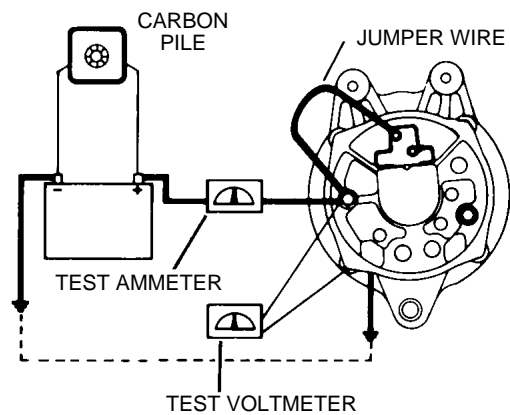

Figure 11-13. Testing Alternator
- a. Wiring connections for bench testing the alternator are shown in Figure 11-13. Refer to the Service Paragraph 11-14 and Table XI-II for output test figures. Adjust the carbon pile if necessary, to obtain the specified voltage.
Refer to Figure 11-13 for test circuit used. Specifications for Prestolite and Electrosystems alternators installed on the PA-28-151 or Warrior, PA-28-161, Warrior II (14 Vdc), and the PA-28-161, Warrior III (28 Vdc) series airplanes are as follows: